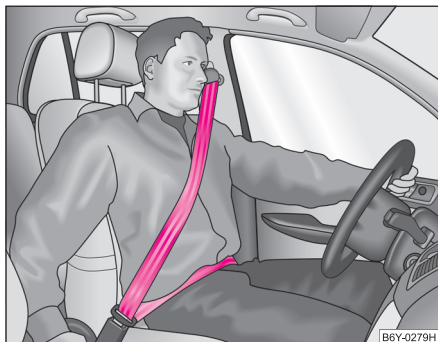

Fig. 109 Routing of webbing over the shoulders and the lap belt
- The shoulder part of the seat belt must never run across your neck but must run approximately over the middle of the shoulder and fit snugly against the chest. The lap part of the belt must run across the hip and must never be routed across the stomach. It must always fit snugly ⇒ **fig. 109**. Adjust the belt webbing as required.